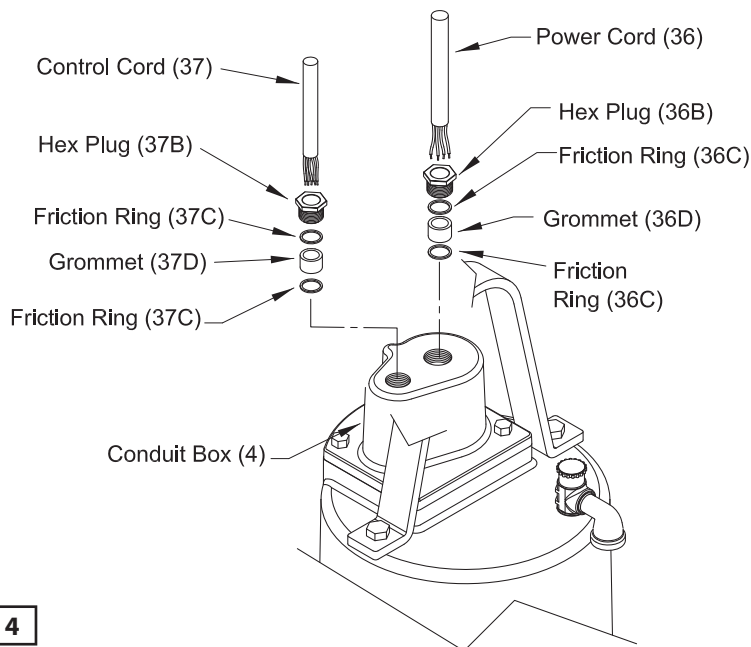

Figure 4
Conduit Box Assembly - Check power (36) and control (37) cables for cracks or damage and replace complete conduit box (4) if required. (See Figure 4) Bring motor wires through opening in top of motor housing (3), check sleeving and replace if damaged. Position square ring (5) in conduit box (4) and reconnect leads using connectors and insulators. See Figures 5, for wiring schematics.
Remove gland nuts (36B) & (37B), friction rings (36C) & (37C), and grommets (36D) & (37D) from conduit box (4), inspect and replace if damaged (See Figure 4). Reassemble by inserting one friction ring, grommet, one more friction ring and gland nut into conduit box. Torque gland nuts to 15 ft./lbs. to prevent leakage.